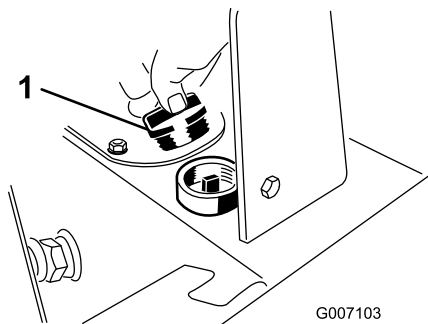

Figure 19
4. Clean the area around the filler neck of the hydraulic tank and remove the cap from the filler neck (Figure 19).